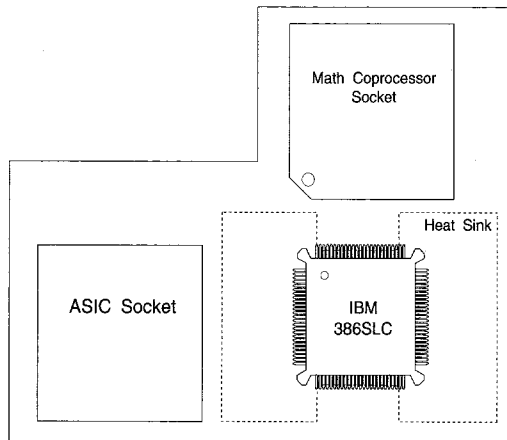

Figure 12. Top View of the 386SLC Cached Processor Upgrade Card for the IBM PS/2 Model 50Z, (see **BOTTOM** of upgrade card for location of Pin #1).
13. If you are adding the math co-processor, identify pin 1 of the math co-processor chip, (designated by either a beveled edge, dot, notch or half-moon). Match this corner to the bevelled edge for the co-processor on the 386SLC Cached Processor Upgrade Card, (see figure 12), or the 486SLC2 Cached Processor Upgrade Card, (see figure 13). Carefully place the co-processor into the socket located on the upgrade card being sure to align the pins and the connector. Firmly press the module into place. (The pins of the module are easily damaged and must be aligned with the connector before pressing the module into place.)